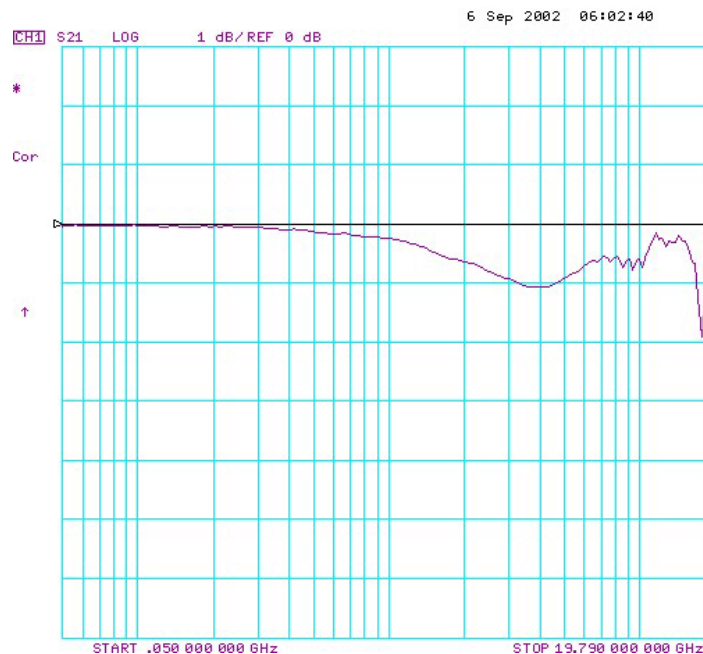

Figure 230 Typical V_{in} Waveform for an 1134B Probe
- 35 The V_{in} waveform shown on screen should be similar to that shown in **Figure 230** on page 211.